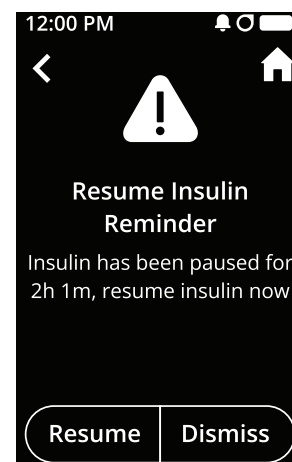

Figure 110
- f. You will also get a reminder to resume after the timer expires, you can resume directly from the alert (see Figure 110).